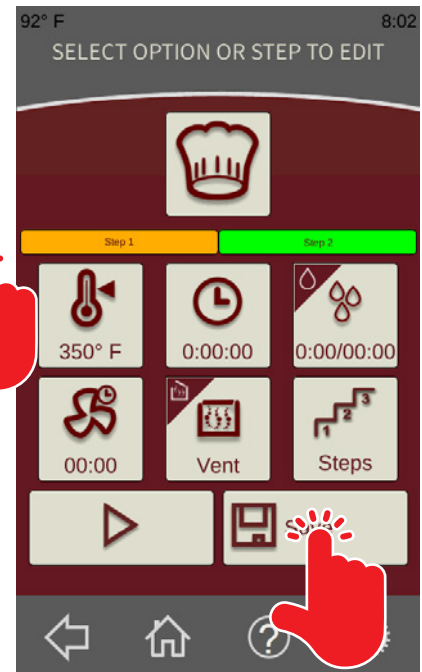

Fig. 28
NOTE: The new step will be displayed in green (Fig. 28) and the oven settings for the new step will be displayed.
6. To save the recipe, touch the Save button (Fig. 28). See Saving a Recipe.